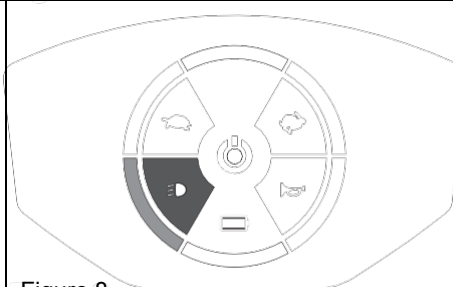

Figure 8
- Press button [] once to switch on the head-light and tail – light. The [] will be lighted on the panel. Light will be on on the panel. (Figure 8)
- Switch off by pressing the button again. The [] light will be off on the panel. (Figure 8)